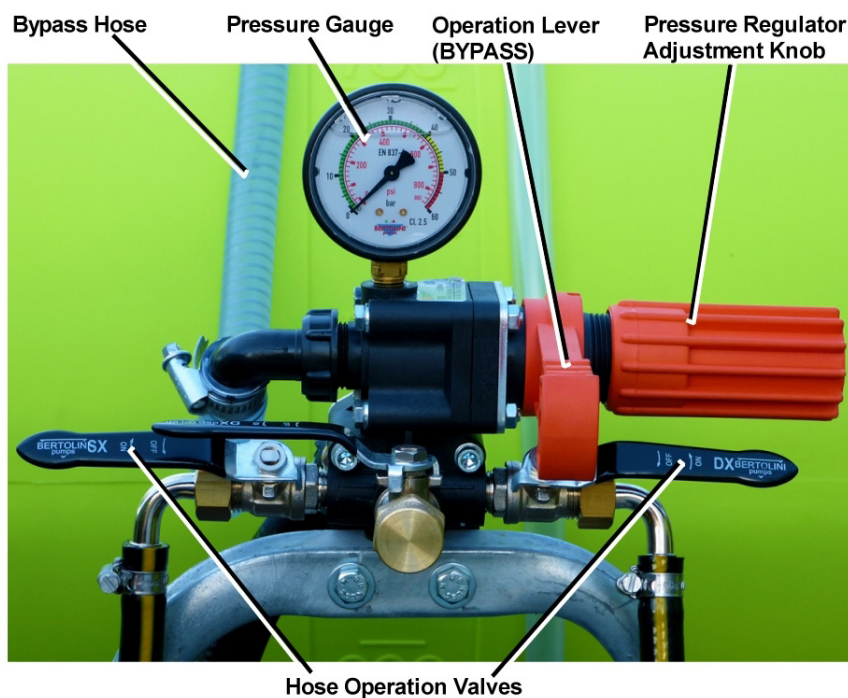
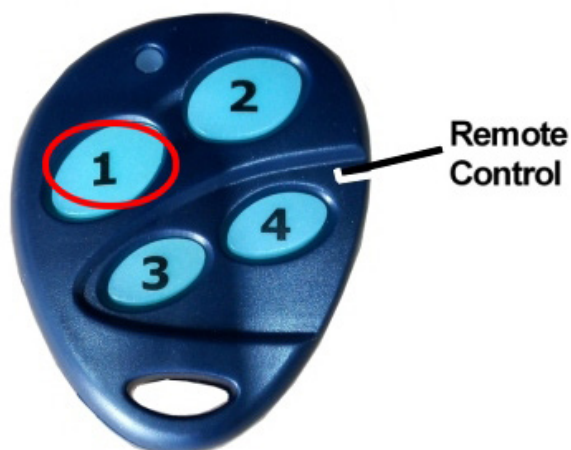

Figure 5 – Pressure Regulator Options
Figure 8 – Versatile Spray Boom Solenoid Operated Valve ON-OFF Remote Control
At the pump, check that the pressure regulator is set to the minimum position by turning the knob anti-clockwise, refer to Figure 5.
- Ensure the operation lever is set to the BYPASS position (refer to Figure 5).
- Turn the bypass lever from BYPASS to ON, refer to Figure 5. From the driver's seat, press Button 1 on the remote control to switch the solenoid operated valve to ON (Figure 8). The fluid will now start to discharge from the Versatile boom spray nozzles.
- Turn the bypass lever from BYPASS to ON, refer to Figure 5.